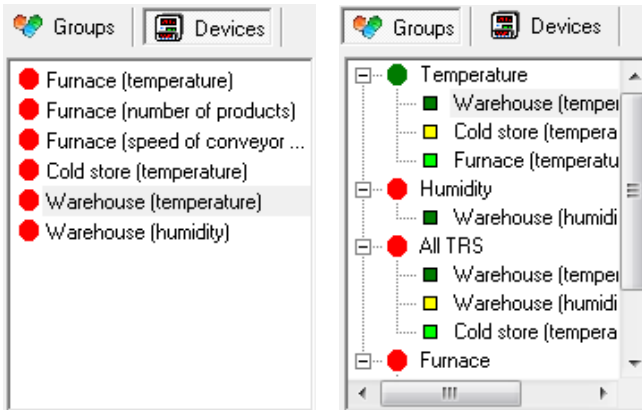

Figure 4.5. Single devices and Group of devices selection tabs.
- click appropriate tab **Groups** or **Devices** (**Figure 4.5**),